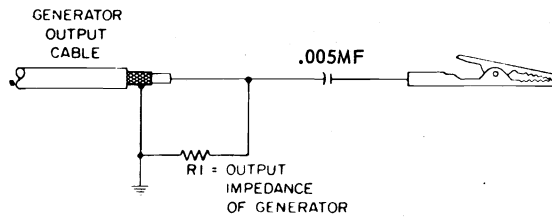

Figure 10 - Generator cable termination.
Generators - Except where otherwise noted, all signal generating equipment should be terminated as shown in Figure 10. Connect the signal cable ground near the ground of the stage where the signal is injected. Adjust the CW generator output so that: (1) When the VTVM is being used its reading remains near the -1 volt point. (2) When the oscilloscope is being used the marker frequencies do not distort the response curve.